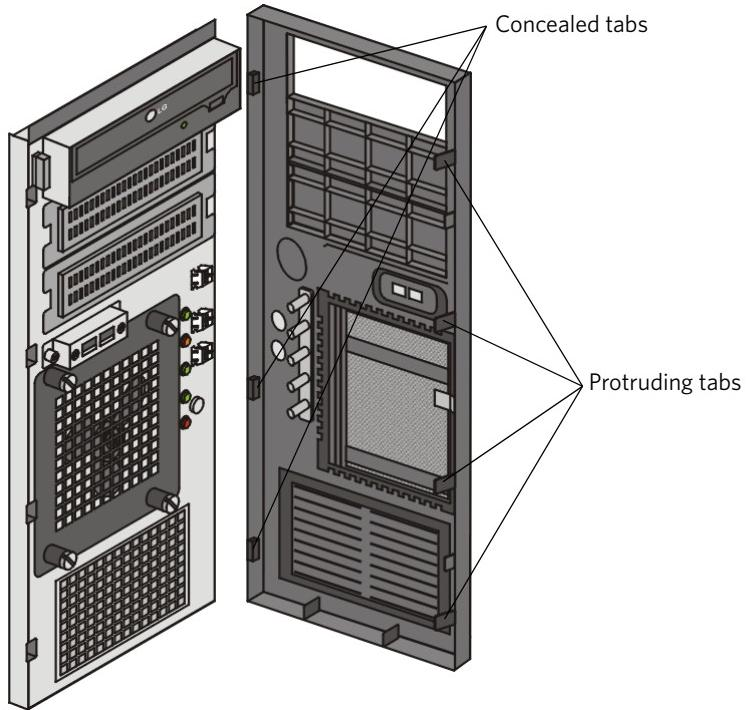

Figure 4: Front panel removed showing protruding and concealed tabs
4. Inside the chassis, lift the two protruding tabs that secure the front panel to the front of the chassis and move the edge of the front panel slightly away from the chassis. See step 4 in Figure 3 and Figure 4 on page 96.
**Note:** While pushing the front panel into place, be careful not to damage the USB port. See Figure 4 on page 96.